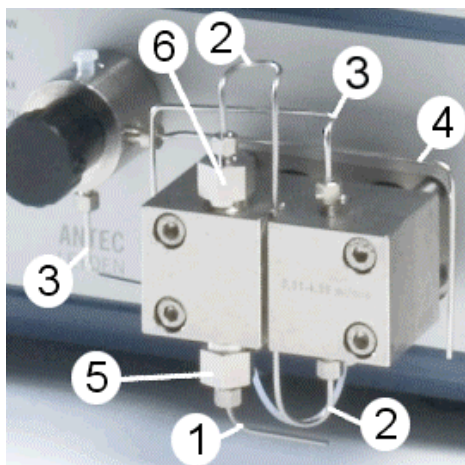

Figure 1. Front view of LC 100 pump head.
1. Remove the FEP inlet tubing connected to the LC 100 inlet capillary (Figure 1, 1).
2. Remove the pump head from the pump by removing the outlet tubing (Figure 1, 3) and the four bolts at the front of the pump head. In the case of an analytical pump head put marks on the piston guide tubes to discriminate which one is right, and left!